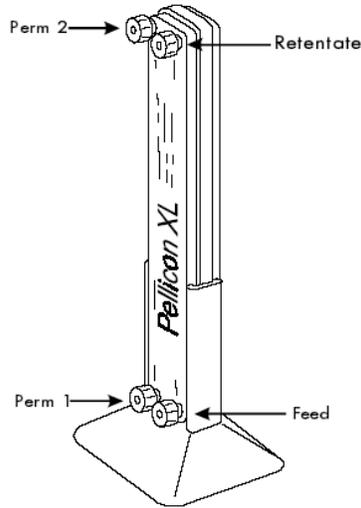

Figure 1: Millipore Pellicon XL Device
- 9.1. Figure 1: Pellicon XL with stand